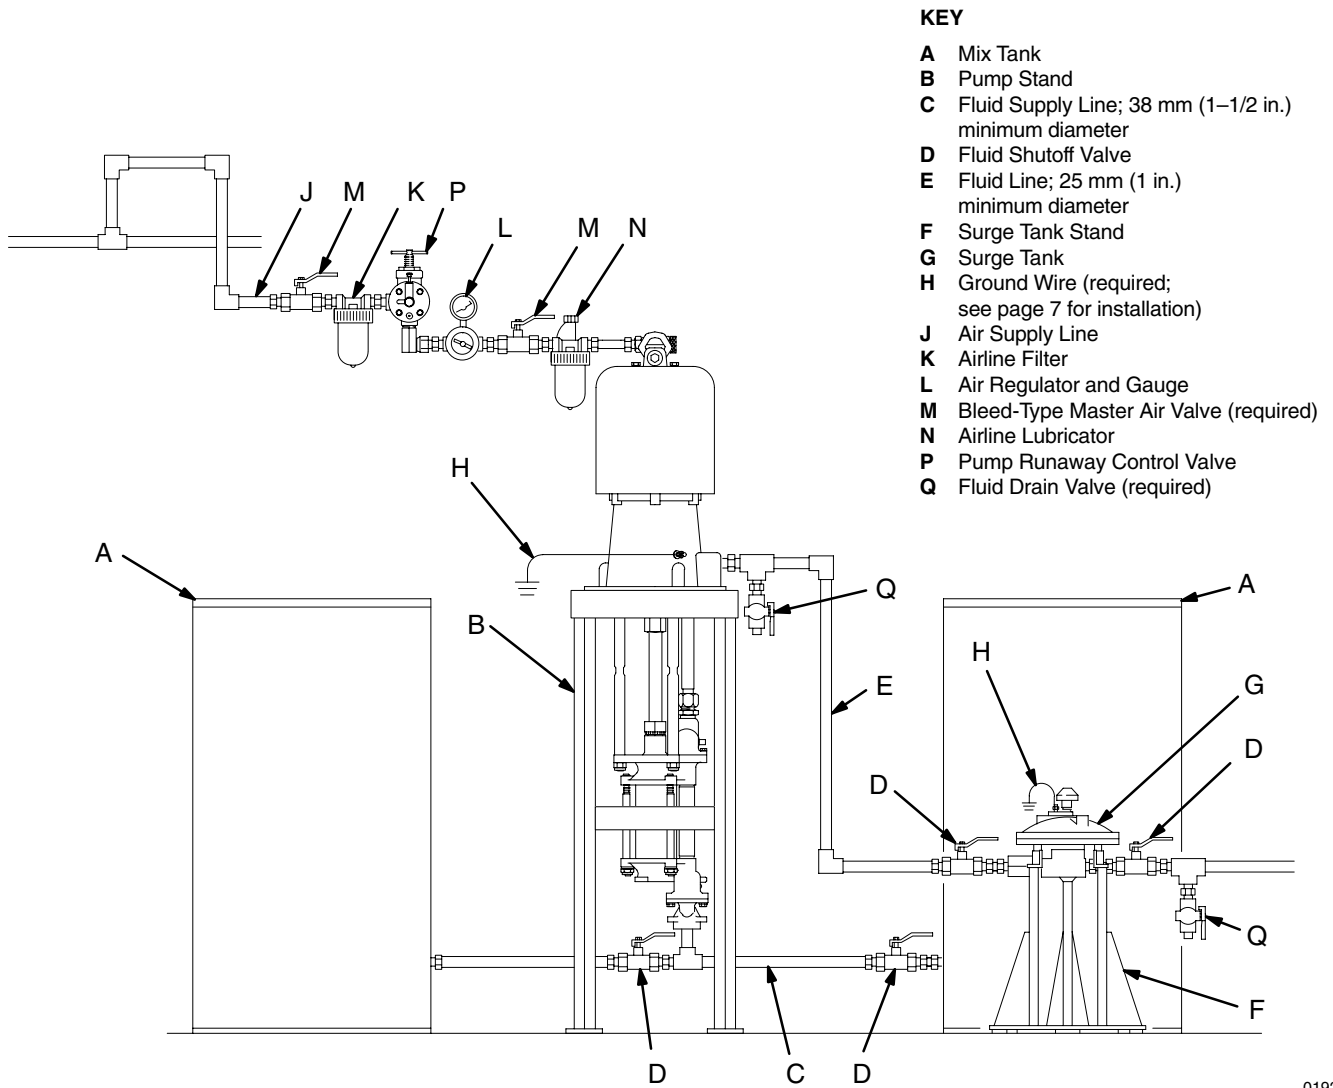

Fig. 2
The Typical Installations shown in Figs. 2 and 3, and the following installation information are only guides. Proper sizing of the pump, accessories and lines is essential to get the maximum performance from your system. Contact your Graco distributor for assistance in designing a system to meet your needs.
1. The air line lubricator (N) automatically lubricates the air motor to prevent corrosion. See Fig. 2.
2. The bleed-type master air valve (M) relieves air trapped between itself and the motor, when the valve is closed. Install one valve close to the pump, downstream from the air regulator. Install a second bleed valve upstream from all other air line accessories, to isolate the accessories for servicing.
3. The air regulator (L) controls pump speed.
4. The pump runaway valve (P) shuts off the air to the pump if the pump speed exceeds your pre-adjusted setting. Running a pump too fast can damage it.
5. The air filter (K) removes harmful dirt and moisture from the compressed air supply.
6. The air supply line (J) must be large enough to supply the proper volume of air to the motor.